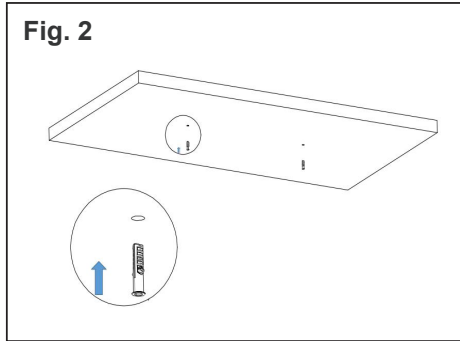

Fig. 2
2. Insert the anchors into the holes (Fig. 2).